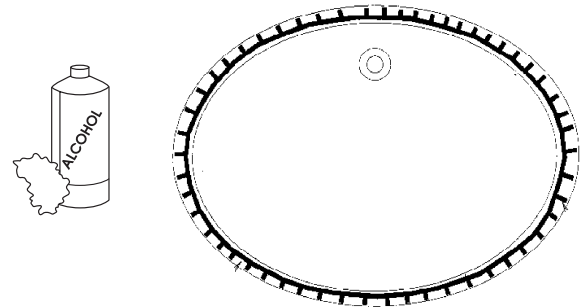

Figure 28
- Clean the flange surface and the sheet around the cutout with denatured alcohol and a clean, white cloth (see Figure 28).
- Apply a generous, continuous bead of Joint Adhesive to the bowl flange $\frac{1}{4}$ " to $\frac{3}{8}$ " (6 mm to 9 mm) from the inside edge of the bowl (see Figure 28).